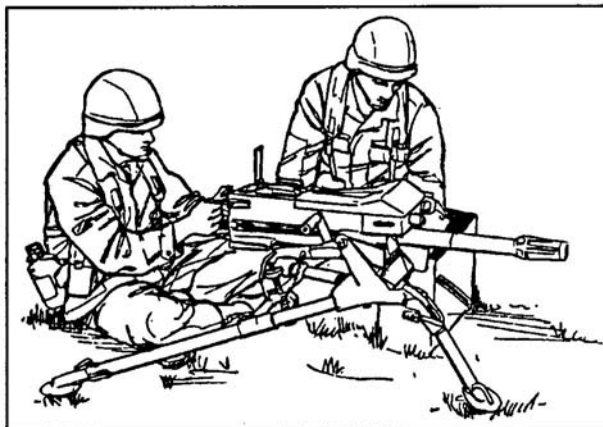

Figure 2. Seated firing position, legs crossed.
- (2) Legs crossed. Cross your legs and place your elbows on the inside of your thighs for support when firing the weapon (Figure 2).